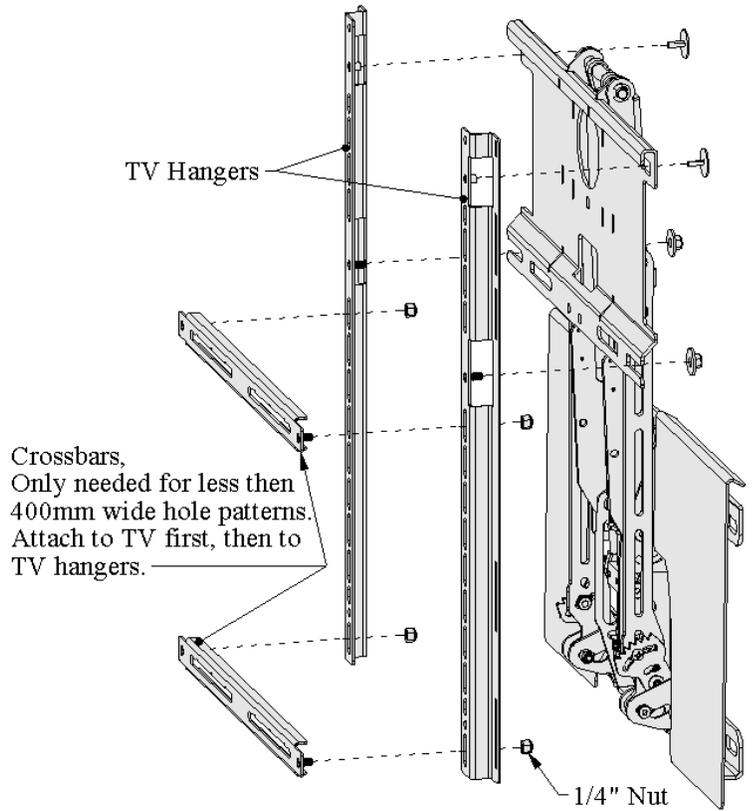

Figure 9, Attaching Crossbars
- 2 Crossbars with hardware shown in Figure 9